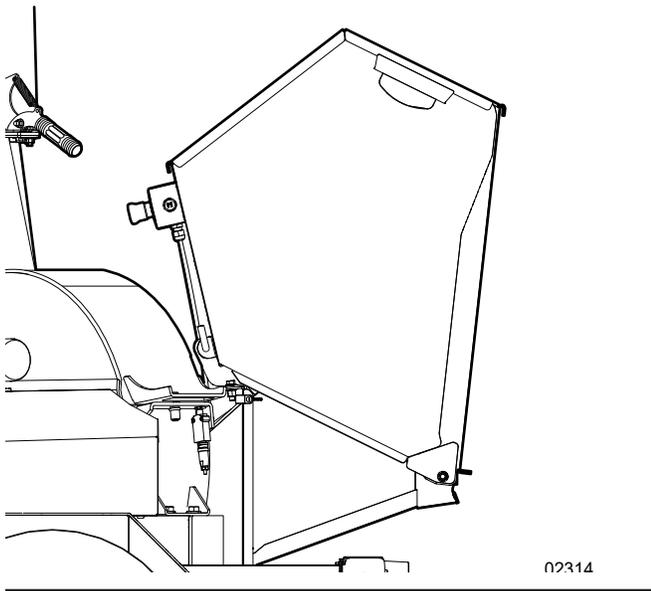

Figure 15—Closed position
2. Tilt the chipper hopper to the closed position. See *Figure 15*.